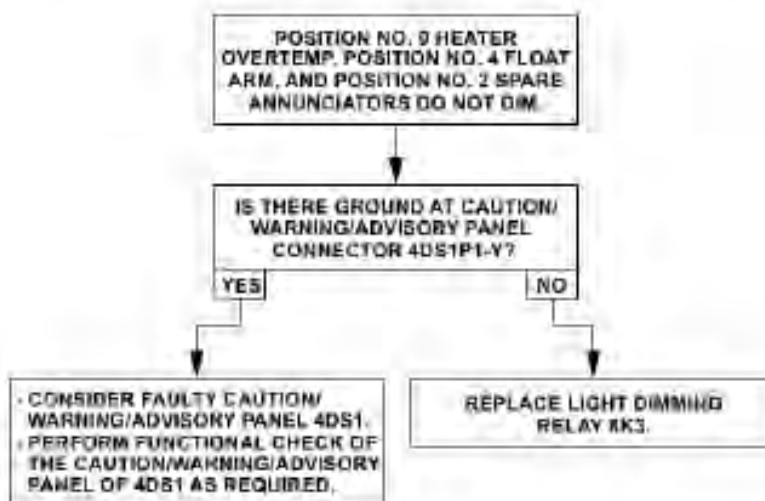

Figure 96-98: Caution/Warning/Advisory Panel Lighting and Dimming – Trouble No. 4
- If only the annunciators at positions No. 4 (FLOAT ARM), No. 9 (HEATER OVERTEMP), and the spare position No. 2 do not come on dimmed, refer to Trouble No. 4 (Figure 96-98).